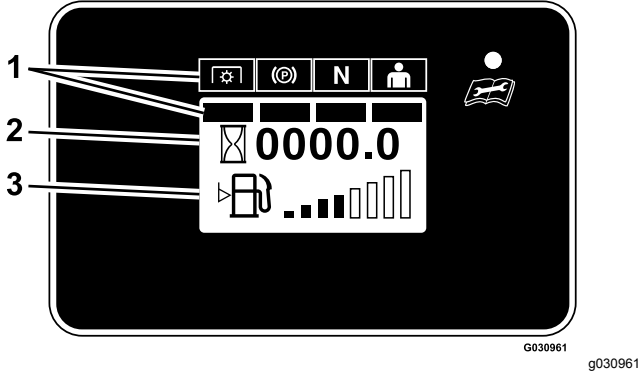

Figure 8
After the startup screens display, the default screen displays (Figure 8).
- If the mower is equipped with a fuel sender, the default screen shown in Figure 8 will display.